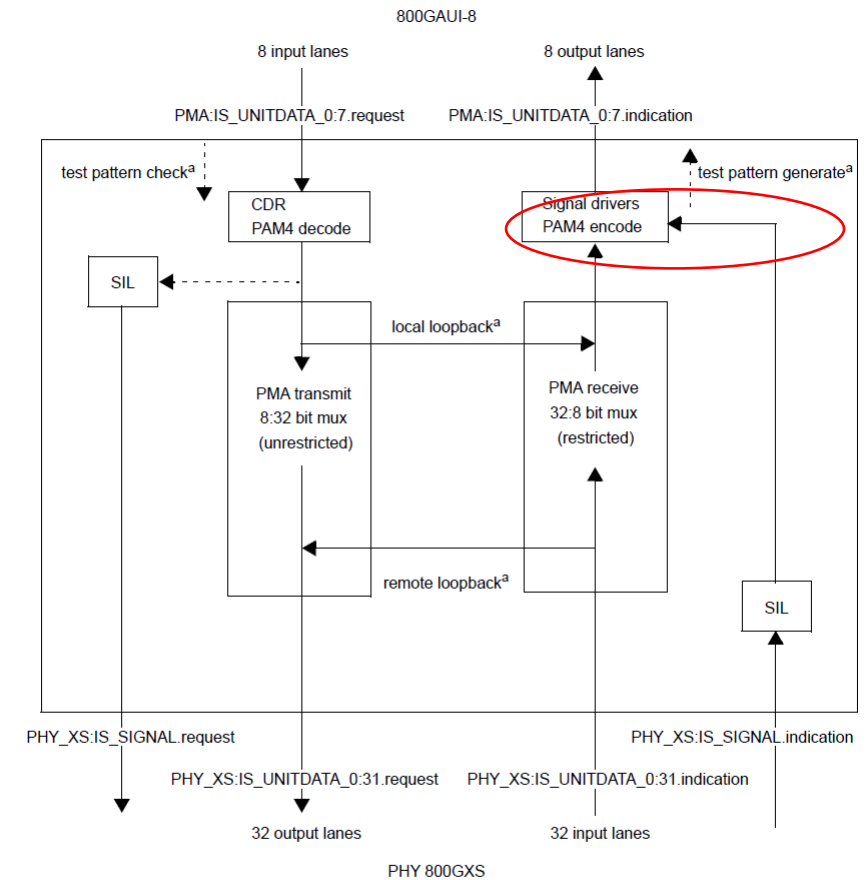

Figure 173-4—8:32 PMA functional block diagram
- Change made to Figure 173-4 showing that the SIL can disable the output.